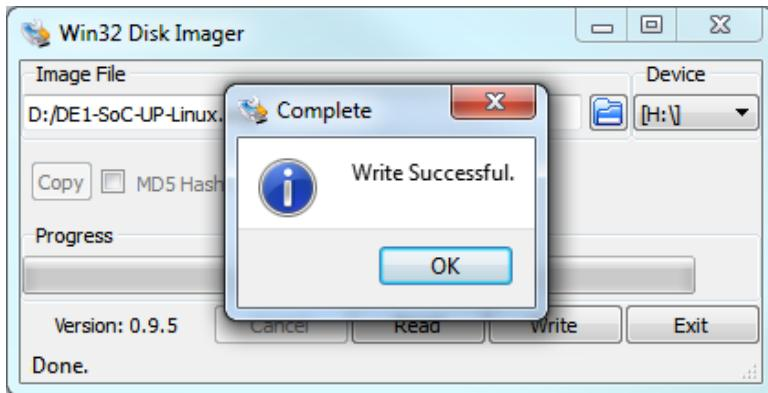

Figure 2. Win32 Disk Imager upon successfully writing the microSD card
4. Click Write to write the microSD card. If prompted to confirm the overwrite, press yes. Once the writing is complete, you will see the success dialog shown in Figure 2.